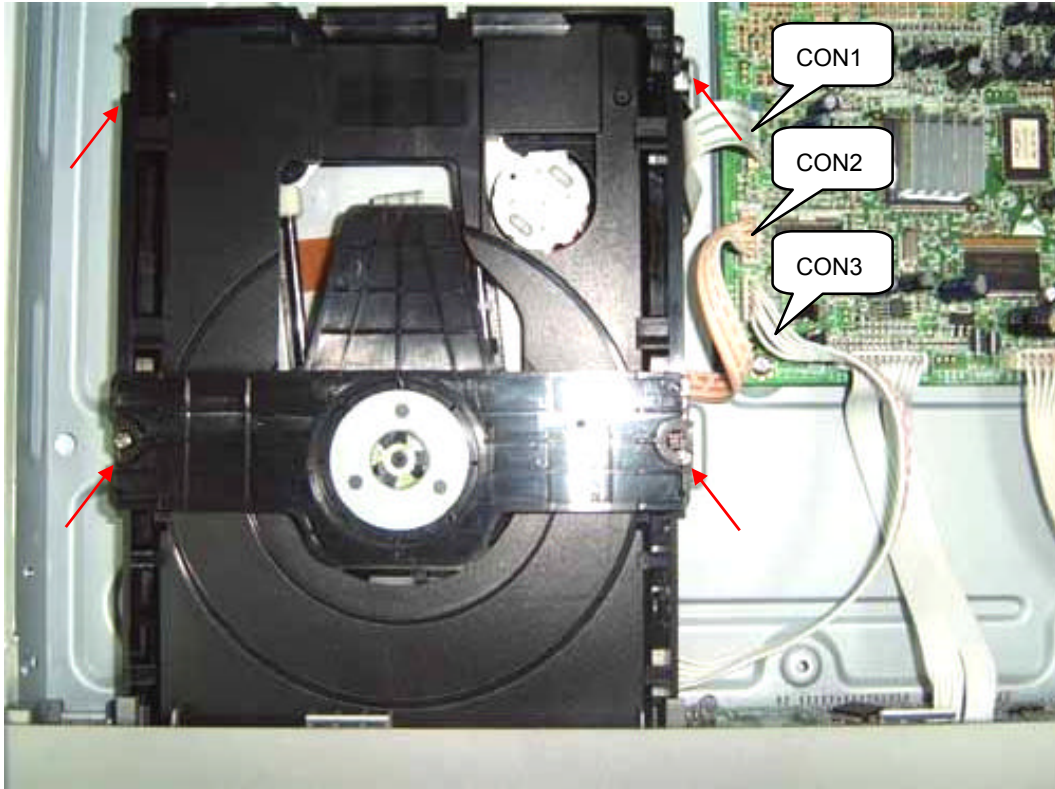

Figure 4
Step3: Dismantling Loader : First, disconnect the 3 connectors aiming in the figure, and then remove the 4 screws at both side of the loader. (Figure 4)